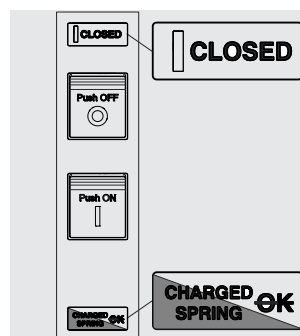

Figure 35
4. Circuit-breaker closed with springs charged and not ready to close (see Figure 35). This state occurs when after closing (see step 4 - Manual operations for opening and closing the circuit-breaker) the springs are recharged manually or automatically by the gearmotor (if provided).